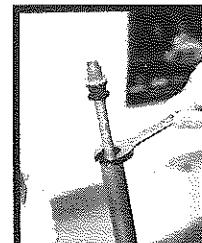

Fig. 47
4. Use an adjustable wrench to loosen the end cap of the lower shaft assembly (Fig. 47). Use caution doing this as the end cap is plastic and can be easily damaged. Completely remove the lower shaft assembly.